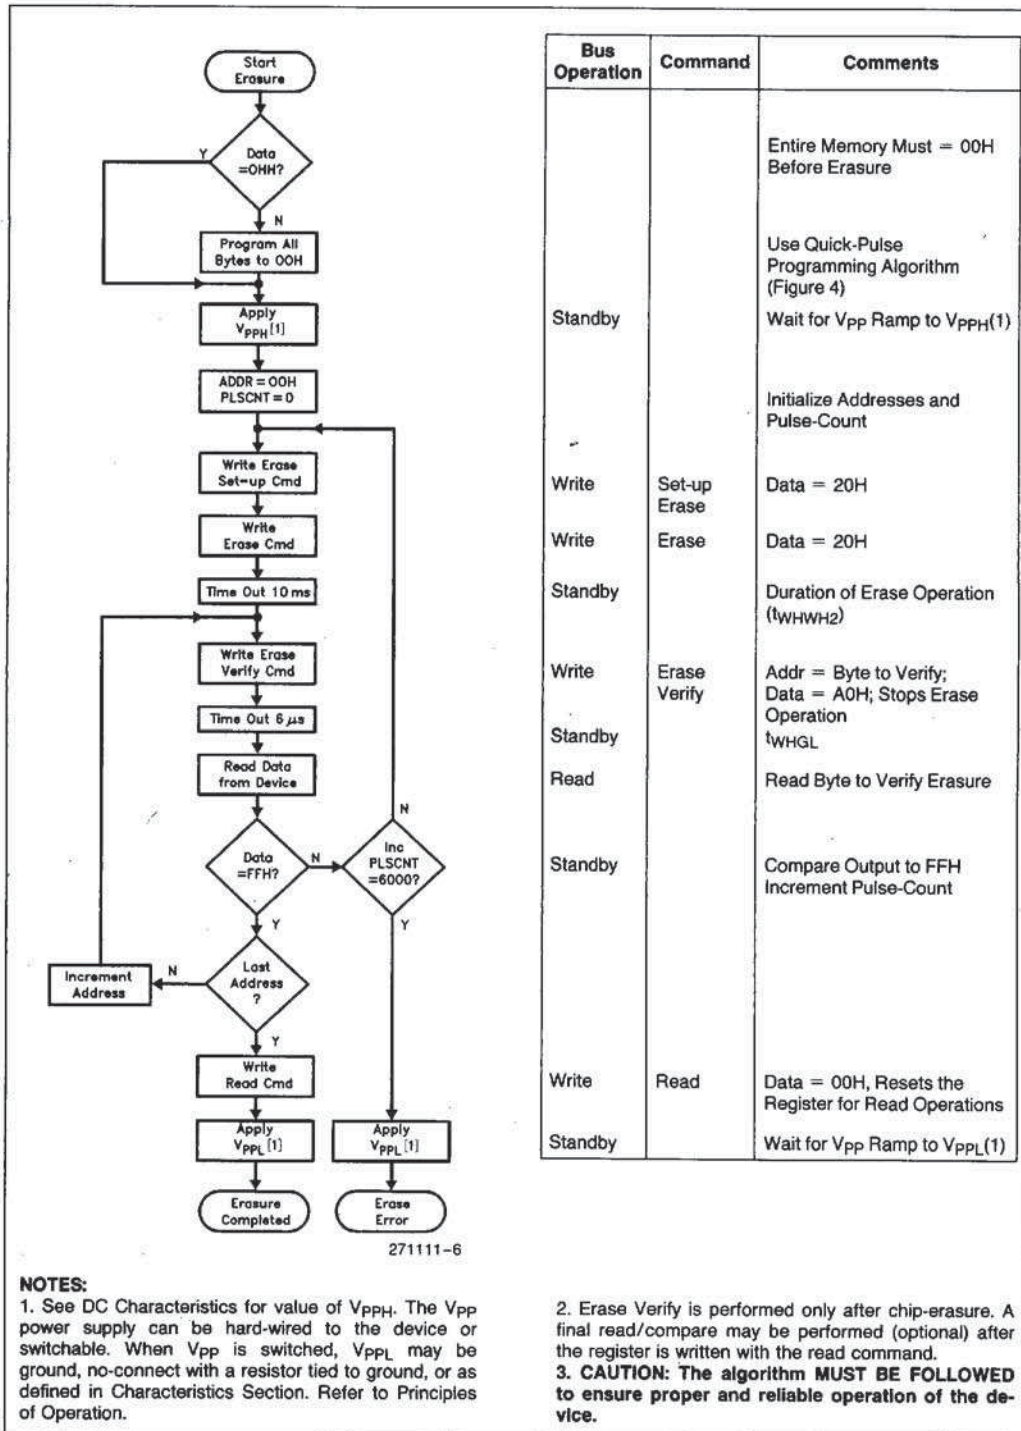

Figure 5. M28F010 Quick-Erase Algorithm
5. Figure 5 illustrates the Quick-Erase Algorithm.
In the case where the data read is not FFH, another erase operation is performed. (Refer to Set-up Erase/Erase). Verification then resumes from the address of the last-verified byte. Once all bytes in the array have been verified, the erase step is complete. The device can be programmed. At this point, the verify operation is terminated by writing a valid command (e.g. Program Set-up) to the command register. Figure 5, the Quick-Erase algorithm, illustrates how commands and bus operations are combined to perform electrical erasure of the M28F010. Refer to AC Erase Characteristics and Waveforms for specific timing parameters.
Erase execution then continues with an initial erase operation. Erase verification (data = FFH) begins at address 0000H and continues through the array to the last address, or until data other than FFH is encountered. With each erase operation, an increasing number of bytes verify to the erased state. Erase efficiency may be improved by storing the address of the last byte verified in a register. Following the next erase operation, verification starts at that stored address location. Erasure typically occurs in one second. Figure 5 illustrates the Quick-Erase algorithm.